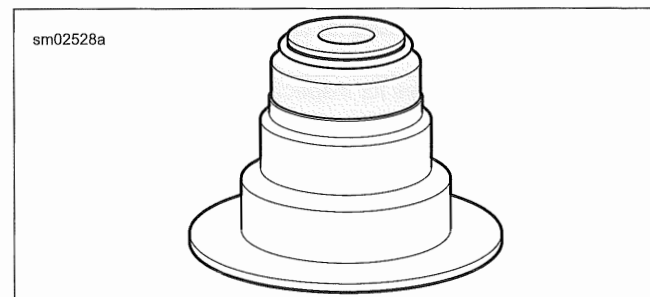

Figure 4-34. Valve Stem Seal Assembly
- c. See Figure 4-34. Slide **new** valve stem seal assembly over installer and down valve stem until seated against cylinder head casting.